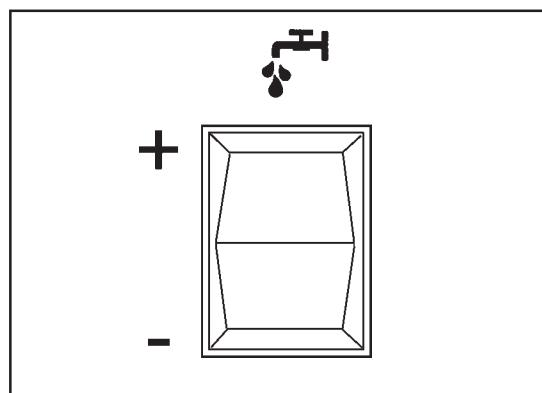
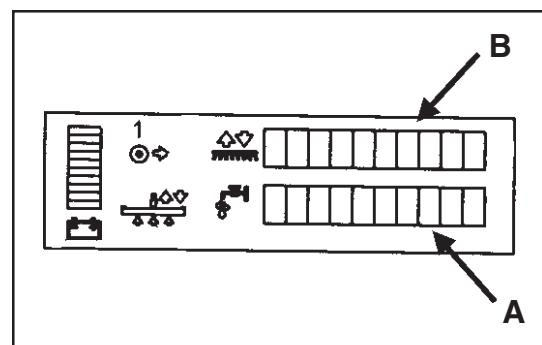
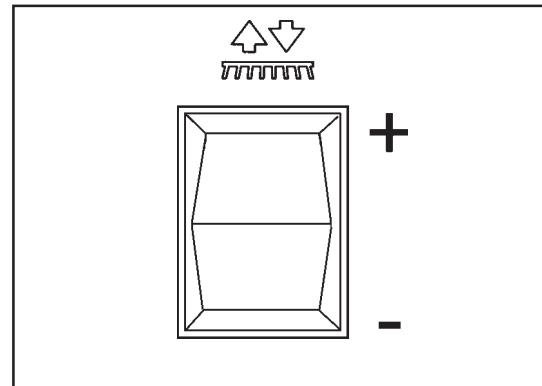

Figure 25
Figure 26
Figure 27
The solution is used to loosen and remove dirt from the floor. The amount of solution applied can be adjusted to five different levels to accommodate many different floor conditions. These different levels are shown on the LCD display on the front of the machine. To adjust the amount of solution applied, use the Solution Flow Switch (figure 25). **NOTE: There are five different settings on the display. See figure 26, A.**
1. Press the “+” side of the switch (figure 25).
1. Press the “-“ side of the switch (figure 25).
The brushes are used to supply agitation for the solution, which improves the cleaning process. The amount of brush pressure applied can be adjusted to five different levels to accommodate many different floor conditions. These different levels are shown on the LCD display on the front of the machine (figure 26, B). To adjust the amount of brush pressure, use the brush up/down switch (figure 27).
1. Press the “+” side of the switch (figure 27).
1. Press the “-“ side of the switch (figure 27).